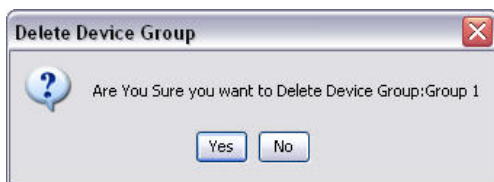

FIG. 148
- c. Use the mouse to select the group folder on the Matrix System side of the screen again. Click the Delete Group button. The Delete Device Group prompt displays asking if you are sure you want to delete the Device Group: named "X" (in FIG. 148 below, the folder is named Group 1). Click the Yes to delete the Group folder or No if you do not want to delete it.